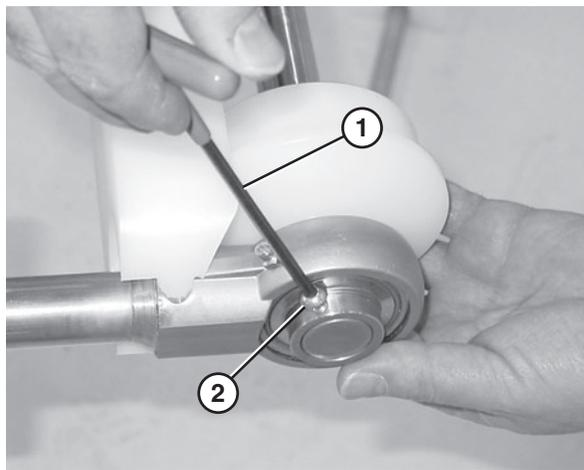

Figure 89
5. Use a hex wrench (Figure 89, item 1) to tighten the bearing shaft fasteners (Figure 89, item 2).